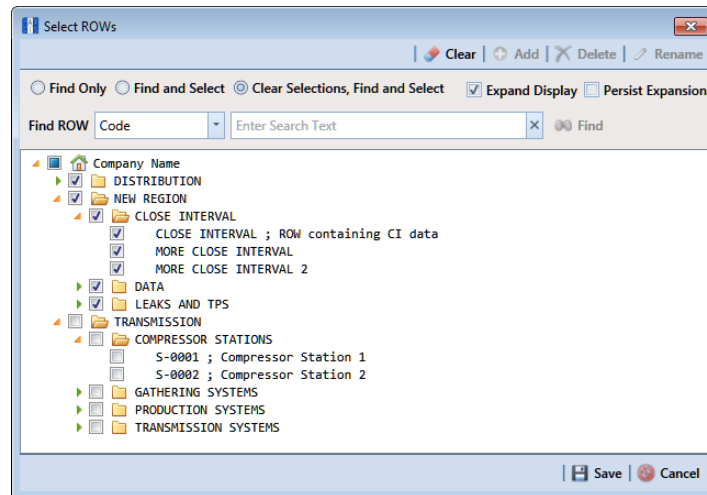

Figure 3-82. Select ROWs
- 1 Click **File > Select ROWs** to open the *Select ROWs* window (Figure 3-82). Select one or more pipeline segments and then click  **Save** to close the window.